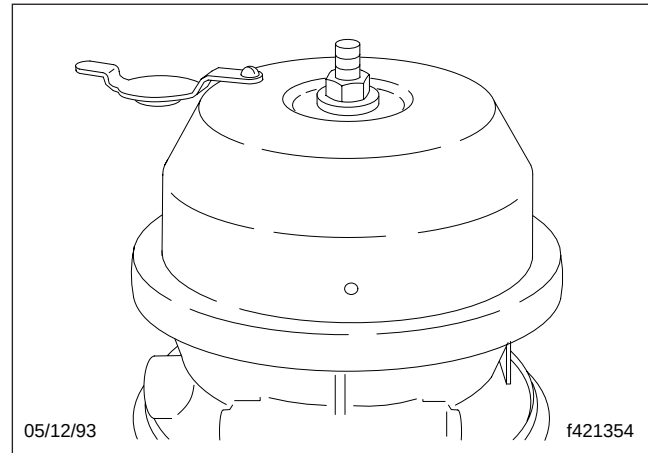

Fig. 5, Flatwasher and Release Nut Installed
6. Then, holding the bolt locked into the piston, install the flatwasher and release nut on the end of the release bolt, and turn down the nut against the flatwasher until it is finger-tight. See Fig. 5.